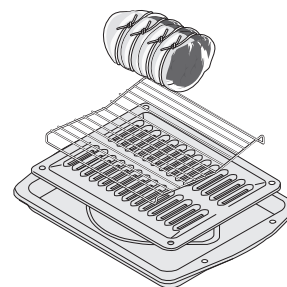

Figure 21: Broil pan, insert, and roasting rack
4. Place meat (fat side up) on insert (Figure 21). Place prepared food on oven rack and slide into oven.
- Use the broiler pan and insert, as well as the roasting rack (Figure 21) (some models). The broiler pan will catch grease spills, and the insert will help prevent splatters. The roasting rack will hold the meat.
- Always use the broiler pan and its insert when broiling, if included. It allows the dripping grease to be kept away from the high heat of the broil element (Figure 21).